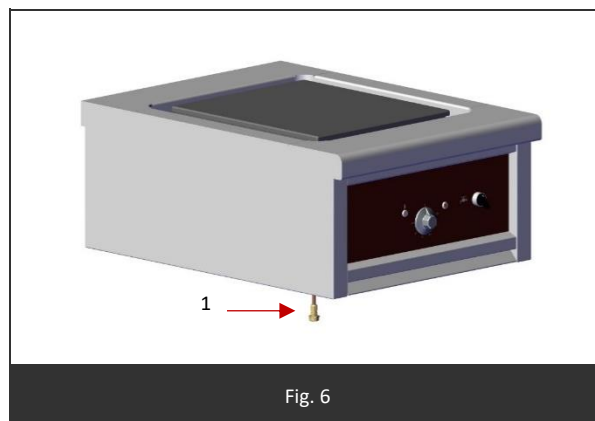

Fig. 6
- Connect to the 15x21 brass male end piece (Fig. 6 Item 1)